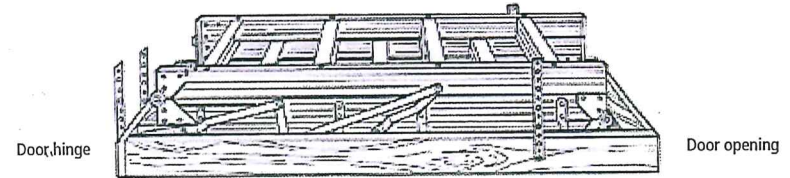

FIGURE 3
A. Attach four E-Z Hang temporary support straps to the frame. Refer to figure 3 and instructions listed below.